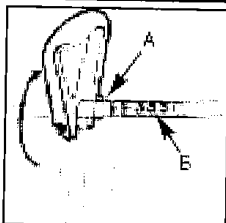

Fig. 1
1. Loosen the setting screw and turn the handle up. Set the handle according to the arrow; see the warning label (B), Figure 1